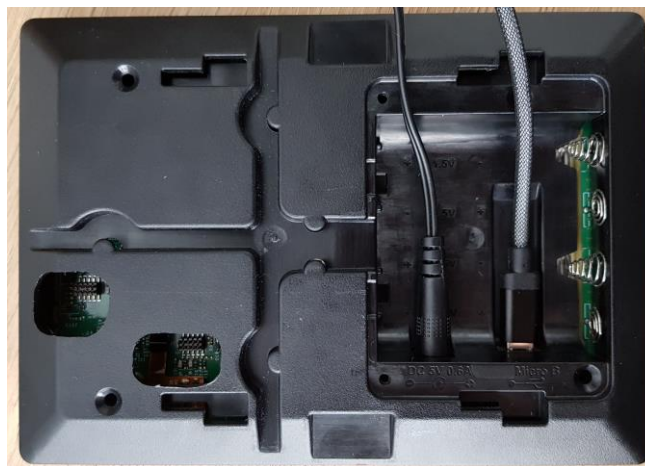

Figure 6-2 Digital Signage Board with power plug and USB cable connected
- Meeting Room Display Tablet (see Figure 6-2)